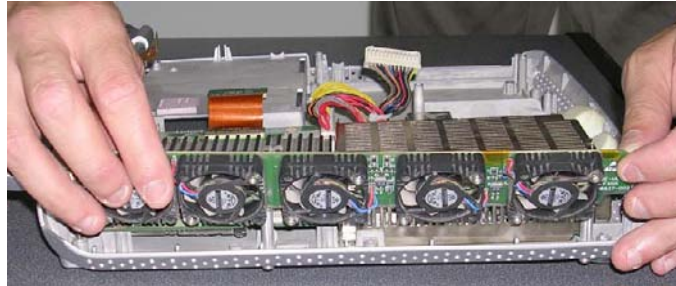

Figure 8-41 Removing the Fan Assembly
- 4) Using both hands, lift the Fan Assembly *upwards* from the *front* and then the *rear* to remove it from the Bottom Assembly; lay it down adjacent to the system, ready for the next step as shown in Figure 8-41 below.
- 2) Using both hands, carefully mount the replacement Fan Assembly into position on the Bottom Assembly - refer to Figure 8-41 on page 8-42 .